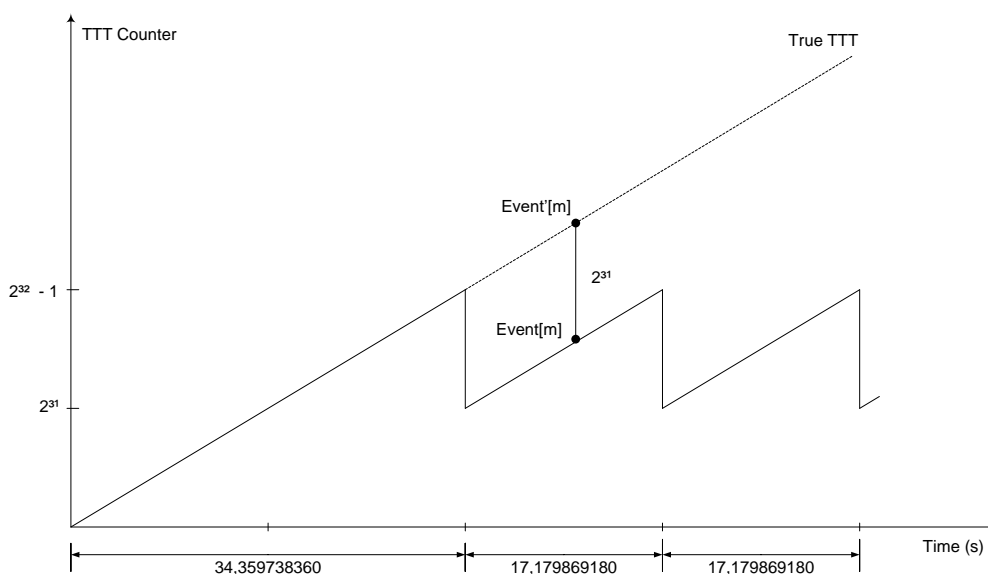
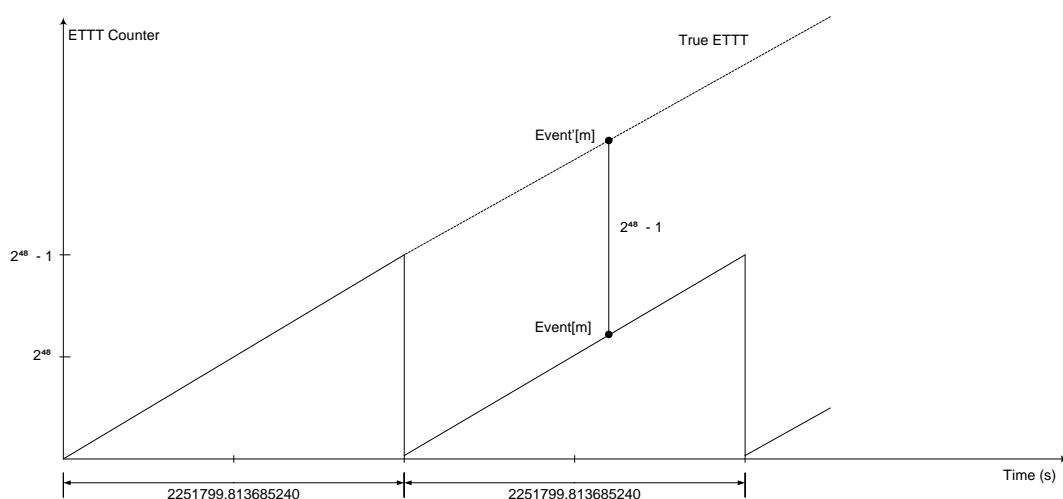

Fig. 10.8: TTT description in case of V1730
Fig. 10.9: ETTT description in case of V1730
- **TRIGGER TIME TAG** (bit[31:0] of 4th header word) is the 31-bit Trigger Time Tag (TTT) information (31 bit counter and 32nd bit as roll-over flag), which is the trigger time reference. The word is composed of the value of the 31-bit counter of the Trigger Time Tag (bit[30:0]) plus the overflow bit (bit[31]) indicating that the timestamp counter has overflowed at least once (Fig. 10.8). If the ETTT option is enabled, then this field becomes the 32 less significant bits of the 48-bit Extended Trigger Time Tag information in addition to the 16 bits (MSB) of the TRG OPTIONS field (2nd event word). Note that, in the ETTT case, the roll-over flag is no more provided (Fig. 10.9). The trigger time tag is reset either after each start of acquisition or via front panel signal on S-IN or LVDS I/O connectors, and increments at 125MHz frequency for both V1730 and V1725, which is every 4 ADC clock cycles for V1730 and 2 ADC clock cycles for V1725. The TTT value is read at half this frequency (i.e. 62.5 MHz), so the TTT specifications result in 16 ns resolution and 17 s range (i.e. $8 \text{ ns} \cdot (2^{31}-1)$), which can be extended to 625 h (i.e. $8 \text{ ns} \cdot (2^{48}-1)$) by the Extended Trigger Time Tag option.